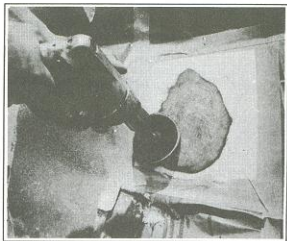

Figure 2-86. Blending Patch with Sander
10. Allow the patch to cure overnight; then sand with dry 80-grit paper on power sander. Smooth the patch and blend it with surrounding surface. If air pockets are present, puncture and fill with catalyzed resin. Let cure and resand. See Figure 2-86.